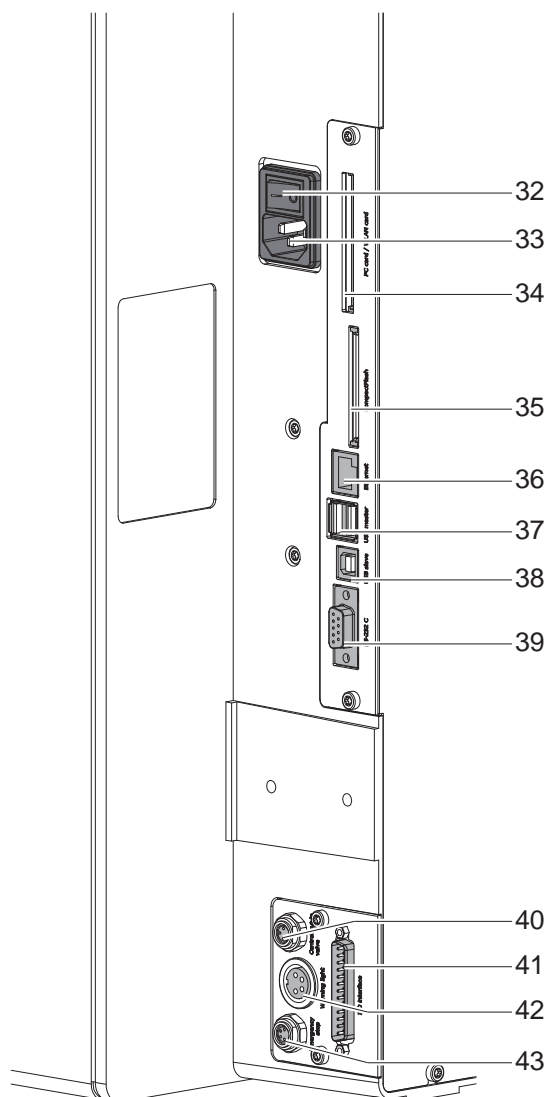

Figure 4 Connections
The standard available interfaces and connectors are shown in Figure 4 on page 8.
2. Plug the power cable into the power connection socket (33 / Figure 4).
- ▶ Switch the printer on at the power switch (32 / Figure 4).